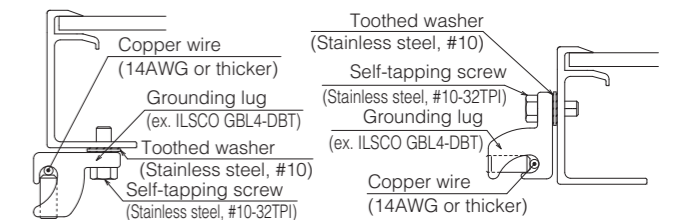

Fig. 4 Grounding method #2
- An appropriate device such as UL Listed ILSCO ground lug, Cat. No. GBL4-DBT should be secured by a stainless steel screw (M5 or No. 10) with 32 threads per inch with a torque of 2.3N-m (20lbf-in) as shown in the figure 4.